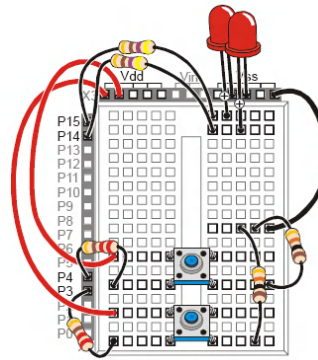

Fig 2.59: 2 LEDs and 2 PBs test circuit
- Build the circuit shown in figures 2.59, 2.60 and 2.61 Pay attention to the LED direction and the PB pins connection